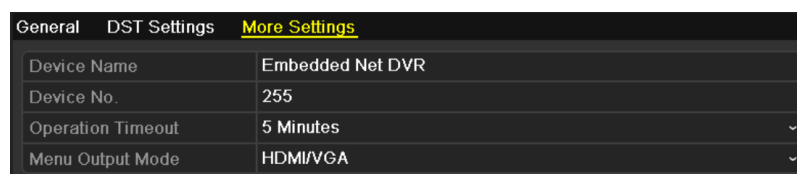

Figure 13. 3 More Settings Interface
2. Click the **More Settings** tab to enter the More Settings interface, as shown in Figure 13. 3.